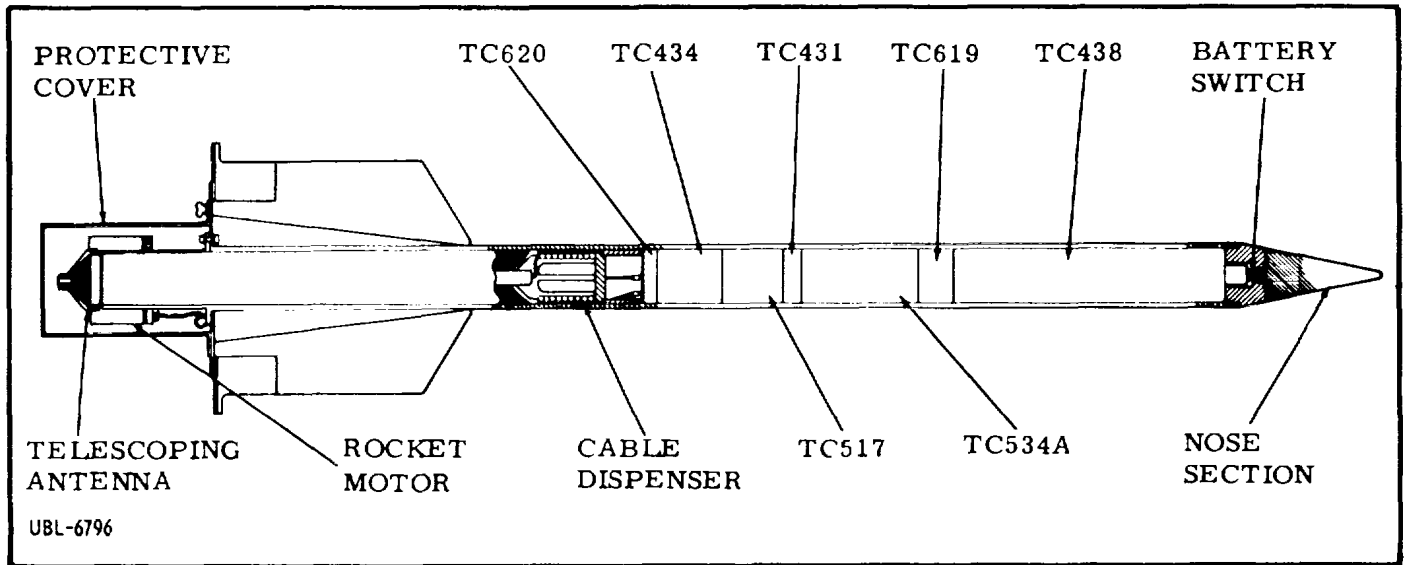

Figure 4-3N. Assembled Hi-Rise EXRAY
12. Stand spike case on nose and vibrate slightly to seat mast sections on antenna cable dispenser (figure 4-3N). The rocket motor mounting tip of the mast section extends a maximum 1 inch from other mast sections.
17. Package MA88 (figure 4-3N) as directed by higher authority. Insure that Record of Assembly/ Implantation (figure 4-3J) accompanies MA88.